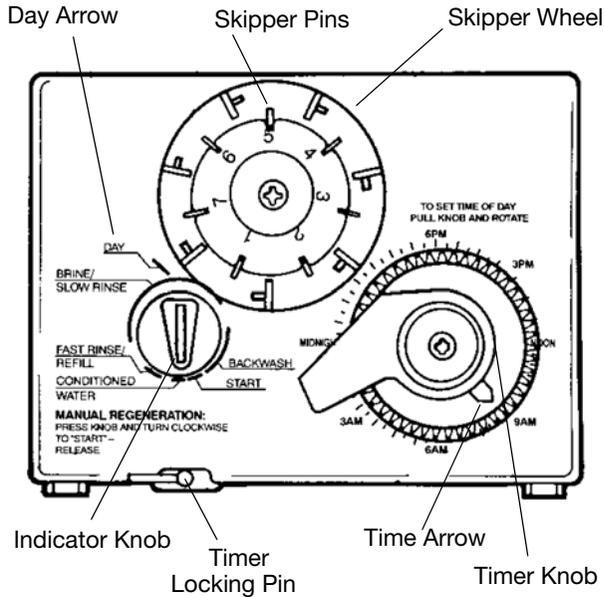
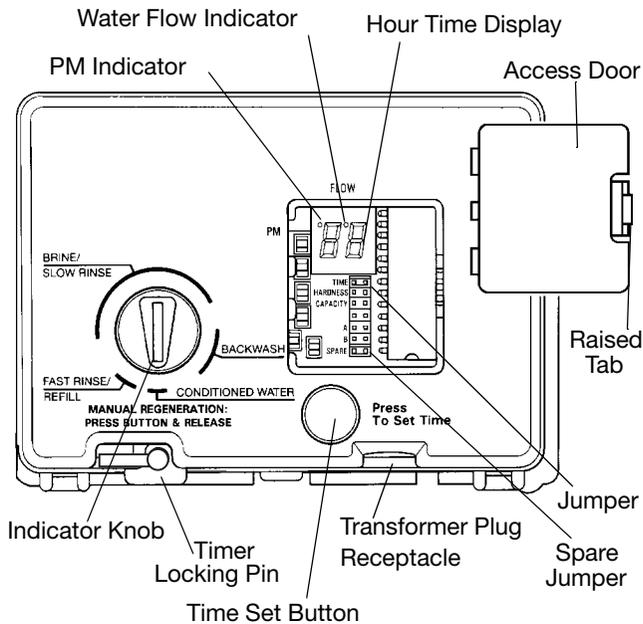

Figure 11
Figure 12
**Note:** The following steps will require turning the indicator knob (Figure 11) to various positions. Insert a wide-blade screwdriver into arrow slot in indicator knob and press in firmly. With knob held in, rotate
2. Insert screwdriver into slot in indicator knob (Figure 11). Press in and rotate knob **COUNTERCLOCKWISE** until arrow points directly to the word **BACKWASH**.
1. Set days of regeneration on skipper wheel (Figure 11).
**Note:** The Timer Locking Pin should always be horizontal (Figure 11) during operation.
Open the access door by pushing the raised tab on the door toward the left while pulling the tab out (Figure 12).
**Note:** The Timer Locking Pin should always be horizontal (Figure 12) during operation.
When abnormally high water usage exhausts your water conditioner’s capacity ahead of schedule, an extra regeneration can be achieved. Depress the indicator knob on the 440i (Figure 11) with a wide-blade screwdriver and turn **COUNTERCLOCKWISE to START** to initiate a regeneration. For the 460i, simply depress the indicator knob (Figure 12). It will take a few minutes for regeneration to start. A normal regeneration will take approximately two hours.